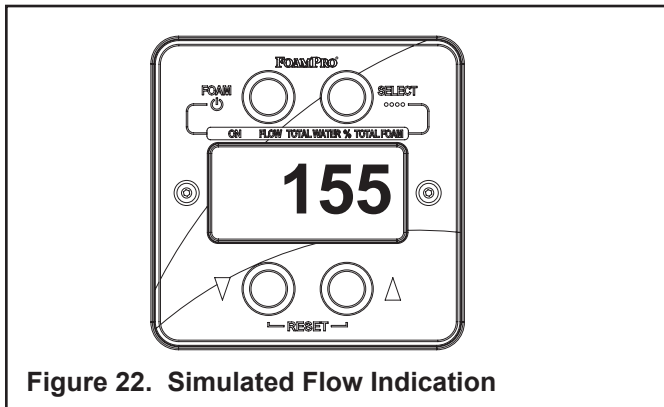

Figure 22. Simulated Flow Indication
- Put the system into “simulated flow mode” by selecting the “FLOW” display and depressing “RESET” (both up  and down  buttons simultaneously) (See Figure 22.) Increase simulated flow by pressing  button to permit easier priming (above 150). Display will show “≡” to indicate the simulated flow.